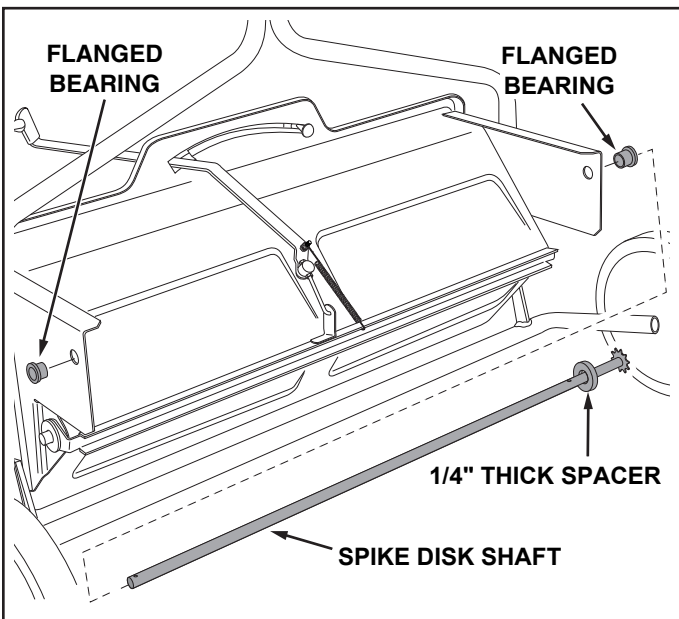

FIGURE 13
31. Press flanged bearings into both of the end plates. See figure 13.
32. Place the 1/4" thick spacer onto the spike disk shaft and then insert the shaft through the flanged bearing in the left hand end plate. See figure 13.